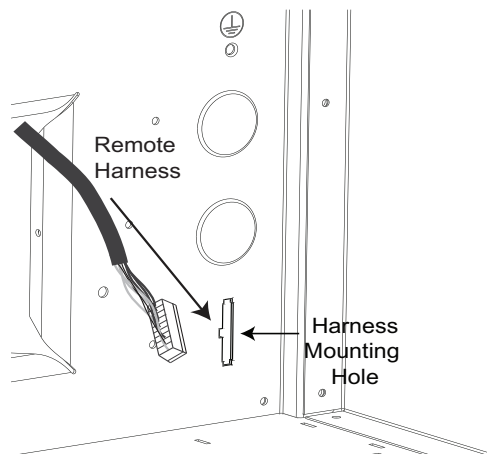

Figure 14: Remote Harness Mounting Hole
- Insert remote harness end into the mounting hole, as indicated in *Figure 14*, until it clicks.